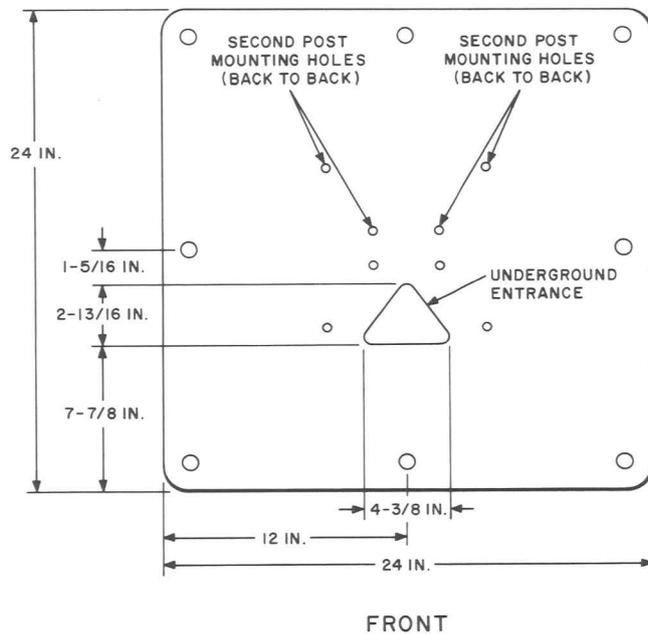

Fig. 14—B-565322 Base
**3.05** Place base (Fig. 14) in the exact position that pedestal will be mounted.